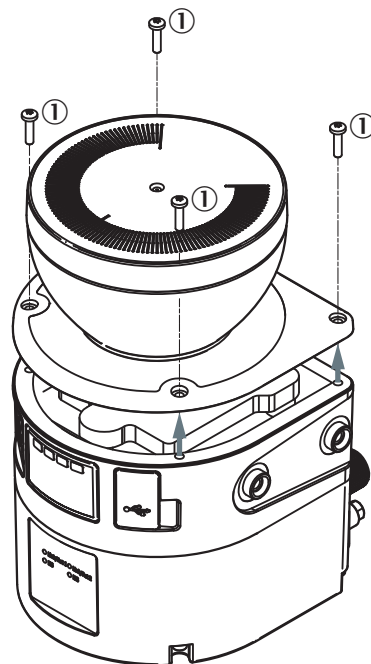

Figure 86: Fixing screws for the optics cover
13. Screw in new fixing screws, see figure 86, page 136.